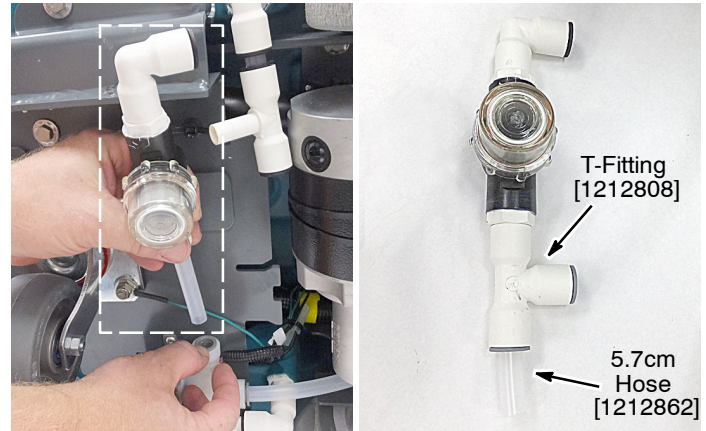

Fig. 22
- Remove the in-line filter assembly from machine (Figure 22). Install T-fitting and 5.7cm hose to filter as shown (Figure 22).